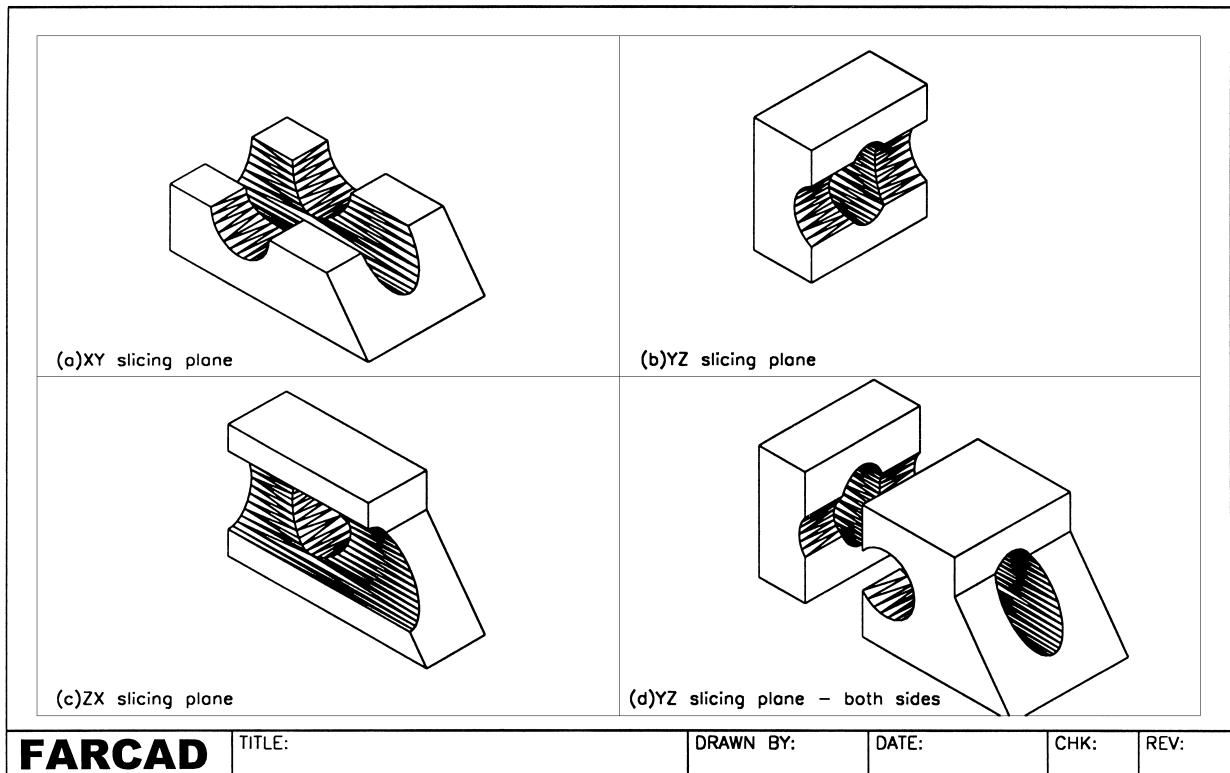

Figure 38.1 Slice example 1 – using the slicing planes with model SLIPBL.
- 4 Erase that part of the model above the slicing plane to give the Fig. 38.1(a) effect